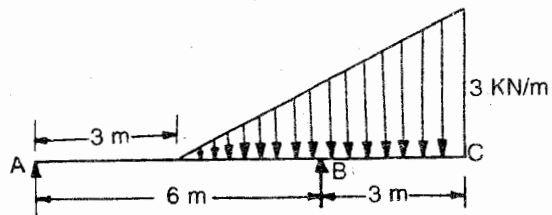

Fig. 5.65
14. A beam 9 metres long is supported at *A* and *B* 6 metres apart. It overhangs 3 metres beyond support *B* and carries a uniformly varying load of 3 KN/m as shown in figure 5.65. Draw the shear force and bending moment diagrams and state the values of $\text{max}^m \text{S.F.}$ and B.M.